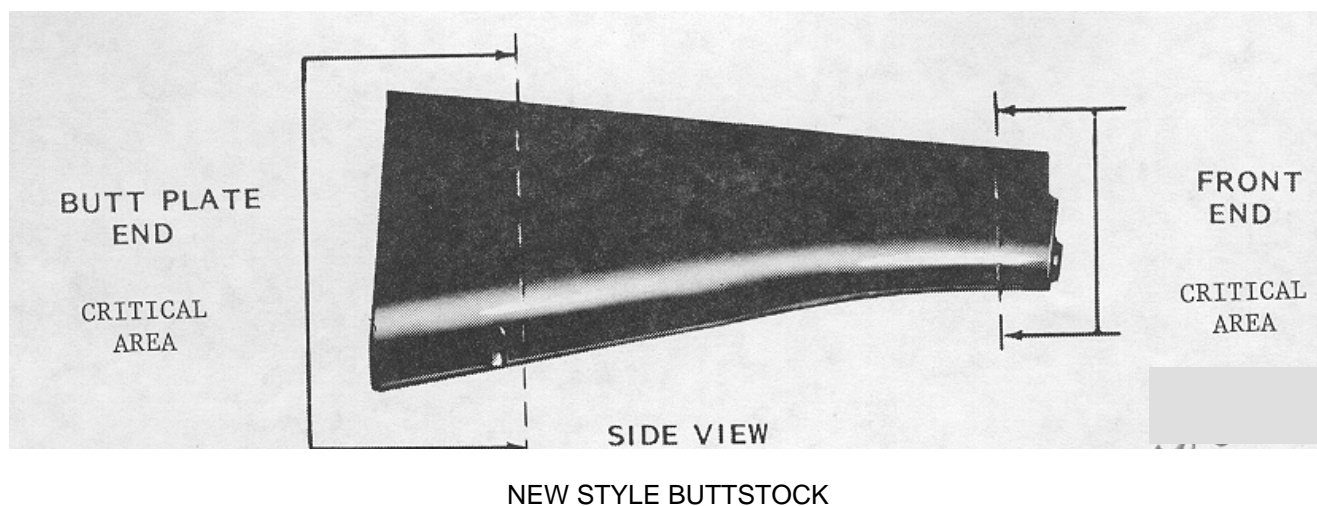

Figure 2-3.2 (Added). Critical areas of fiber glass/plastic stocks (M16, M16A1 Rifles).
a. Refer to figure 2-3.2.
Page 7. Figure 2-3.2 is added.